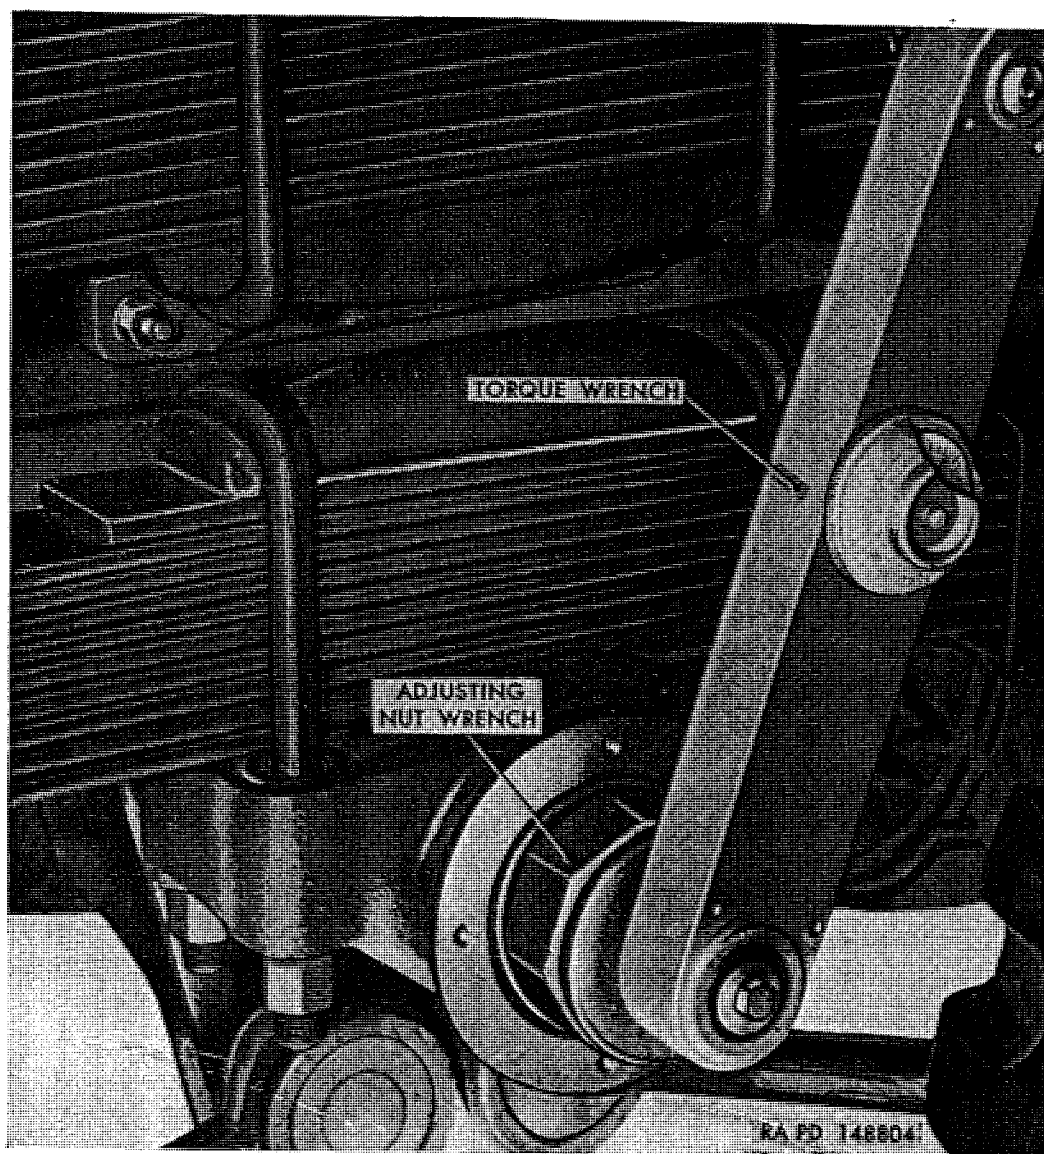

Figure 299. Tighten spring seat adjusting nut, using wrench B7950946 with torque wrench.
- (1) Coat inner diameter of oil seal (P) with plastic-type gasket cement. Press seal over cross shaft sleeve (H) with lip of seal toward cross shaft bracket (M). Press on sleeve until inner edge of seal is one-quarter inch from inner edge of sleeve.
- (2) Install outer and inner bearing cups (D and F) (if removed) in seat, making certain that cups seat firmly against shoulder in seat.
- (3) Install inner cone and rollers (G) in spring seat (E).
- (4) Press oil seal flange (N) into spring seat.
- (5) Position outer cone and roller (C) into spring seat. Slide seat and bearings over cross shaft, with oil seal flange over oil seal lip.
- (6) Install adjusting nut washer (S) over cross shaft threads. Install adjusting nut (T) and tighten to 60 to 75 pound-feet torque, using adjusting nut wrench B7950946 with torque wrench (fig. 299) while oscillating spring seat to make sure bearings are properly seated. After tightening adjusting nut, back off one-quarter turn.
- (7) Install nut lock (U) and locknut (V). Tighten locknut to 100 to 150 pound-feet torque, using adjusting nut wrench B7950946 with torque wrench; then bend tangs of nut lock over flats on adjusting nut and locknut.